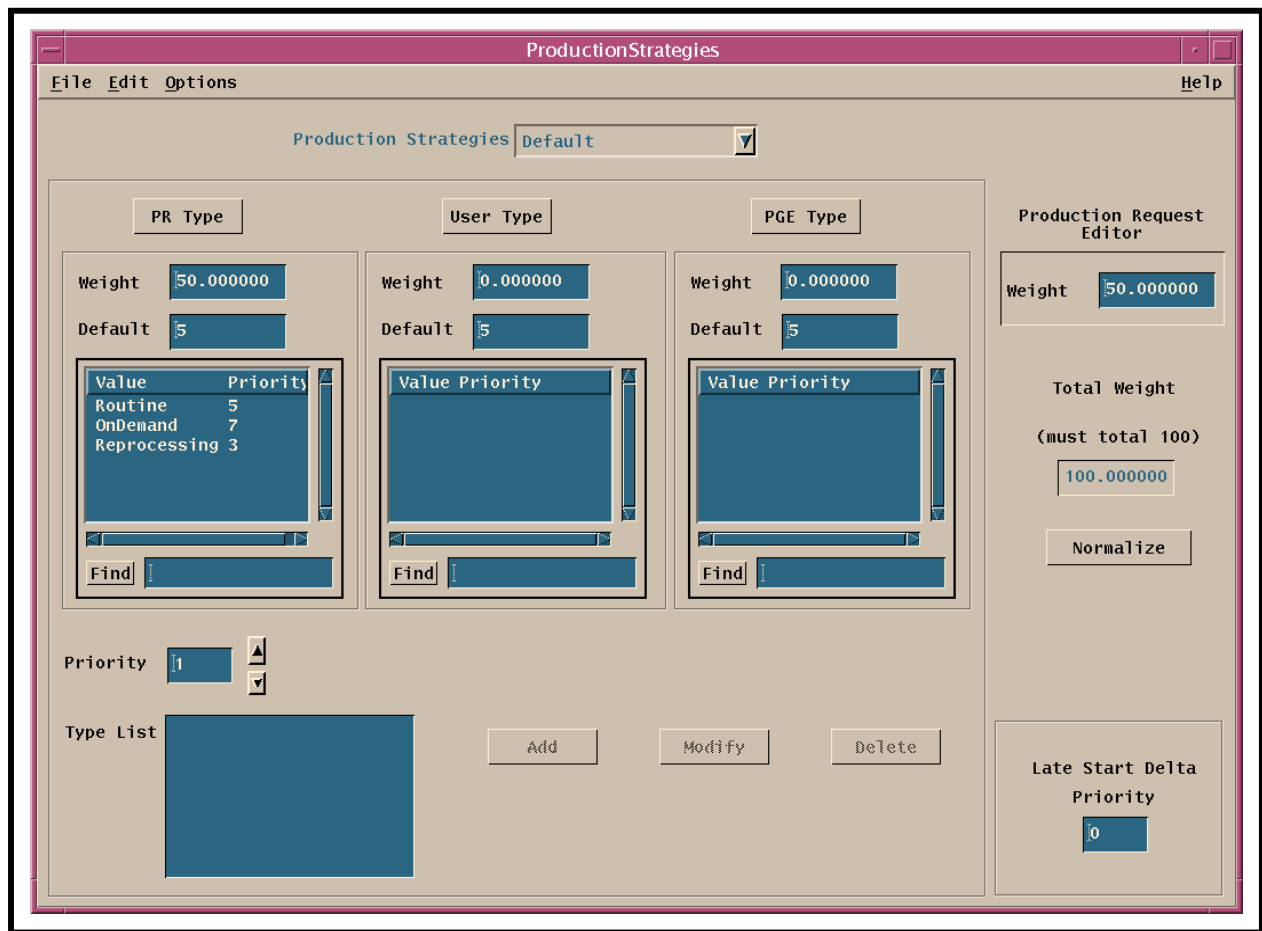

Figure 35. Production Strategies GUI
- The **Production Strategies** GUI (Figure 35) is displayed.
The procedure for defining a production strategy starts with the assumption that all applicable servers are currently running and the **Production Strategies** GUI (Figure 35) is being displayed.
- The fields of the **Production Strategies** GUI (Figure 35) are reset.
- Data pertaining to the selected production strategy are displayed in the applicable fields of the **Production Strategies** GUI (Figure 35).